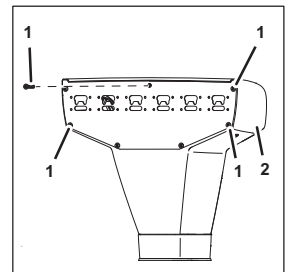

Fig. 43
1. Remove the fastening bolts (Fig. 43/1) of the front panel (Fig. 43/2).
8. Attach the front panel (Fig. 43/2) using the fastening bolts (Fig. 43/1).